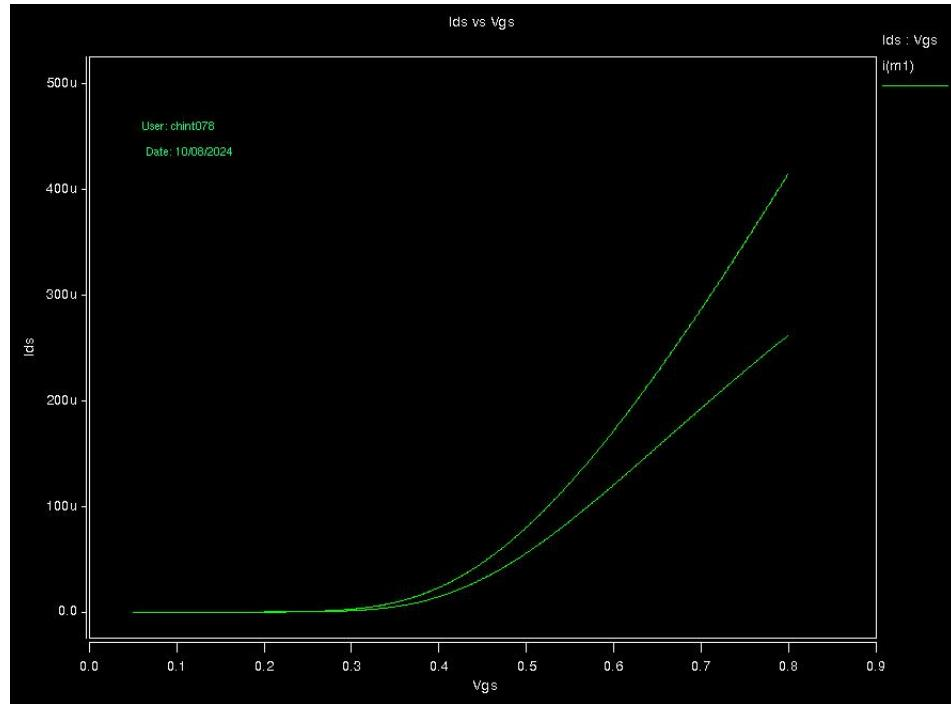

Figure 2: I_{DS} vs V_{GS}
2) CMOS inverter design Figure 2 shows the design of a CMOS inverter. Both PMOS and NMOS FinFETs have 8 fins. CL=10fF, which is added in the test bench, not in the schematic
b) a ramp input to V in , which is a 0 to VDD switching, with the transition timeTr =20ps (as shown in Figure 2). Plot out the waveform of Vout . Measure the 50% VDD delay (i.e., time difference from the 50% point of input to the 50% point of output) and the time for Vout to transit from 90%-10% VD